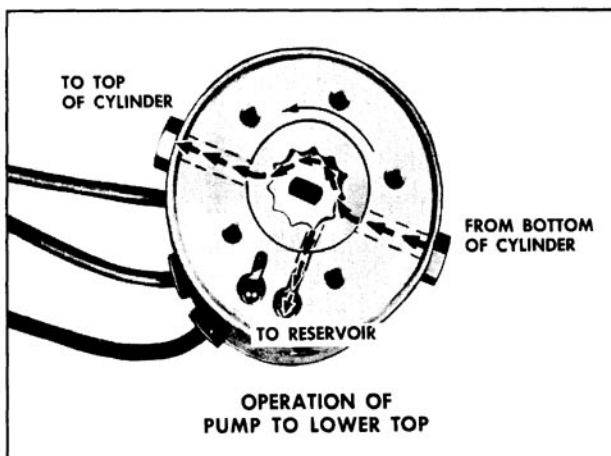

Fig. 16-421 Pump Operation to Lower Top
2. Lowering the Top. When the green motor lead is energized, the motor drive shaft turns the rotors counterclockwise as indicated by the large arrow in Fig. 16-421. The action of the pump rotors forces the fluid under pressure to the top of each cylinder. This action causes the fluid below the piston in each cylinder to be forced into the pump which recirculates the fluid to the top of each cylinder. The surplus hydraulic fluid due to piston rod displacement flows into the reservoir.